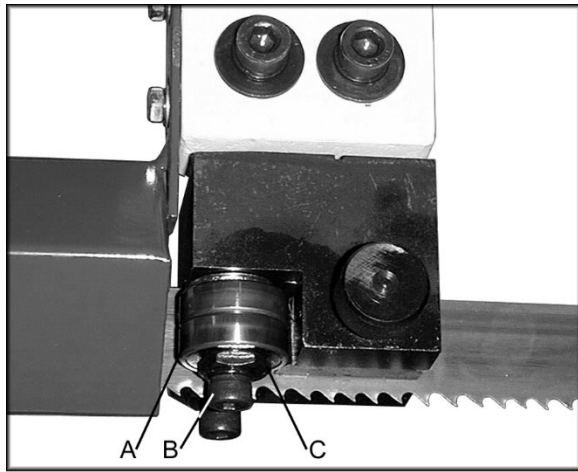

Figure 10
Refer to Figure 10:
5. Adjust the eccentric bearings (A, Figure 10) by loosening hex socket cap screw (B) about one full turn.
6. With a 19mm wrench turn hex nut (C) until the ball bearings are approximately .003" from blade. Note: Do not pinch the blade.
7. Tighten the hex socket cap screw (B) while holding the hex nut (C) in place.